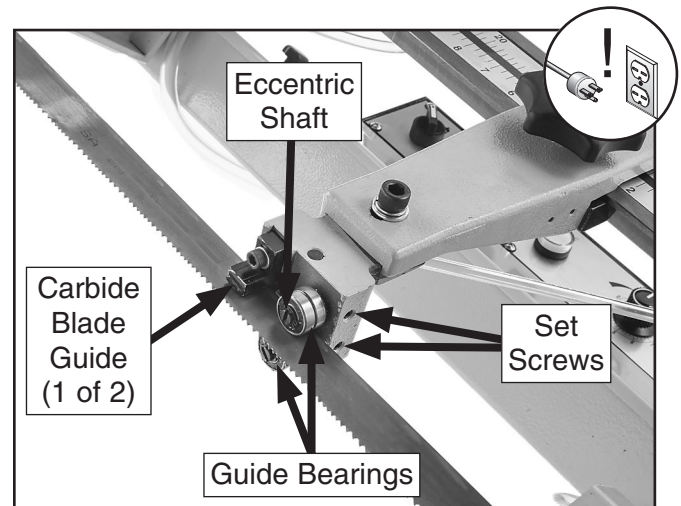

Figure 60. Adjustment controls on right front blade guide.
1. Loosen set screws shown in **Figure 60** to allow guide bearings on front blade guide arm to turn.
2. Turn eccentric shaft and adjust guide bearings (see **Figure 60**) so they lightly contact blade or have maximum clearance of 0.002".
4. Adjust carbide blade guides (see **Figure 60**) so they make same contact with blade as guide bearings.